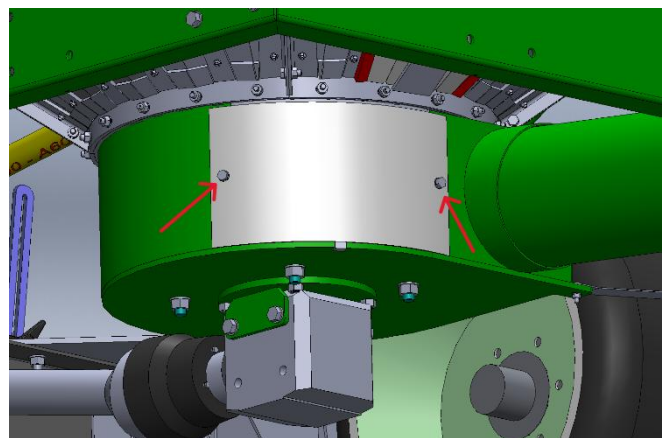

Figure 10.2 Inspection hatch
1. Carefully open the inspection door by removing the screws indicated in Figure 10.2 Inspection door.